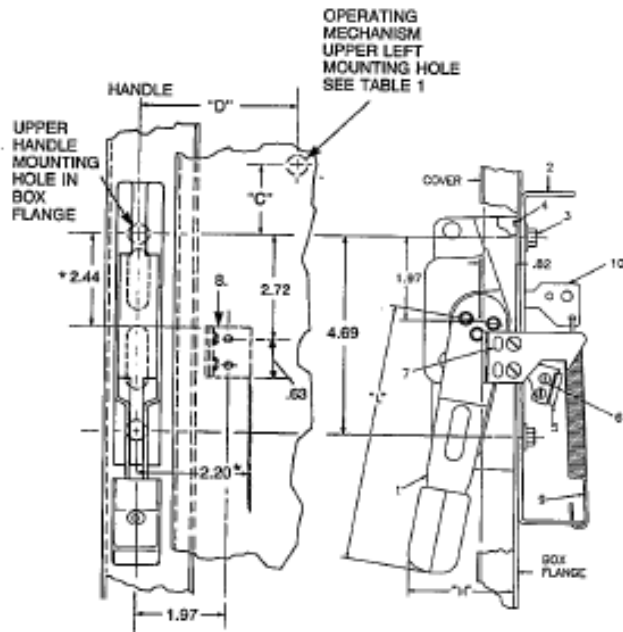

Figure 2. Vertical location of upper left operating mechanism mounting location relative to handle upper mounting hole.
- Referring to Figure 1 or Figure 2 and Table 1, determine location of handle on right or left flange of enclosure.